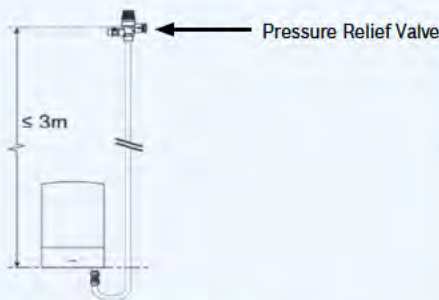

Fig. 1 Remote Pressure Relief Valve
A. Worcester recently has introduced a remote Pressure Relief Valve (PRV) kit to tackle this very issue. As shown in Figure 1, the max permissible pipe length is 3 metres from the bottom of the boiler to the PRV outlet. The PRV kit is compatible with following appliances: